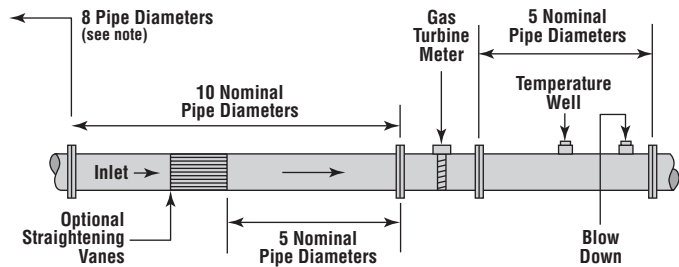

Figure 1
- 1. Inline** A minimum run of ten (10) pipe diameters (DN) of straight pipe must be used between any flow-altering device (other than flow throttling) and the inlet flange of the Turbo-Meter (Figure 1).